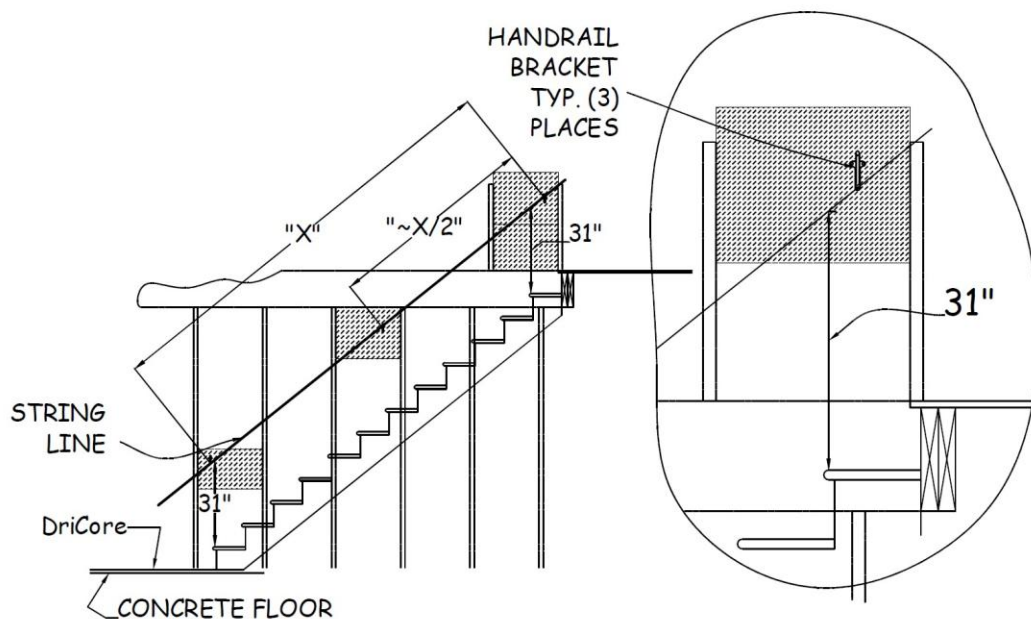

Figure 16-2. Handrail Bracket Installation.
- Along this line, first mark the wall for locations of the top and bottom handrail brackets. Locate the top bracket 10-12" from the top end of the stairway wall and the bottom bracket 10-12" from the bottom end of the stairway wall, or from door trim if present (see Figure 16-2). Check for blocking or stud with an 8d or 2½" finish nail.
NOTE: Blocking has been installed for the handrail at the top, middle, and bottom of the stairs (see Section 10.6.5 and Figure 16-2).
13. Set the skirtboard on saw horses with the unfinished side up (any tear out from the circular saw will then be on the unfinished side). Lay the template on the board and orient it to establish the proper cut orientation at the top of the skirtboard. If the top angle of the template is correct, use it to mark for cutting. If not, use the adjustable bevel angle established above. This will establish Point 1 (see Figure 16-2).